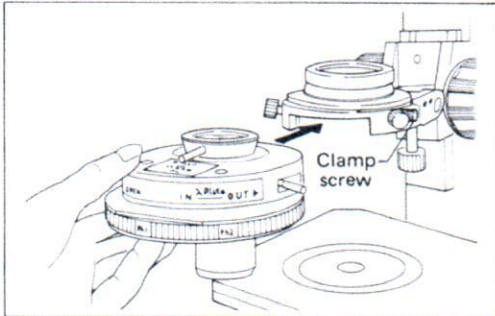

Fig. 2
- ① If the LWD or the Extra LWD phase-contrast turret condenser has been already attached to the condenser mount, remove it beforehand.
- ② Attach the LWD Nomarski turret condenser to the condenser mount and clamp the screw. (Fig. 2)